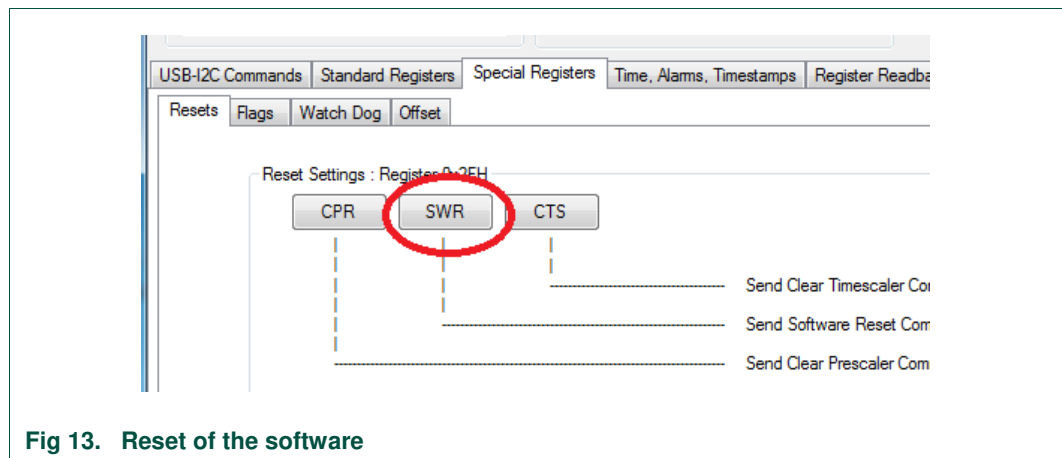

Fig 13. Reset of the software
1. Perform a Software reset: *Reset* tab, function *SWR* (see Fig 13).